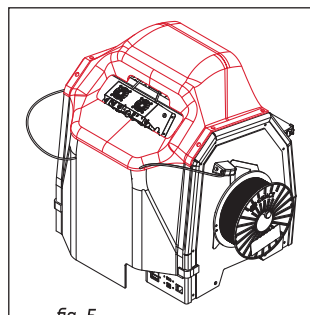

fig. 5
6. Mount the top enclosure part, so that extruders are placed in the cutout of the part (fig. 5). Top enclosure part should lay on the rear enclosure part. Magnets will hold the element in place.